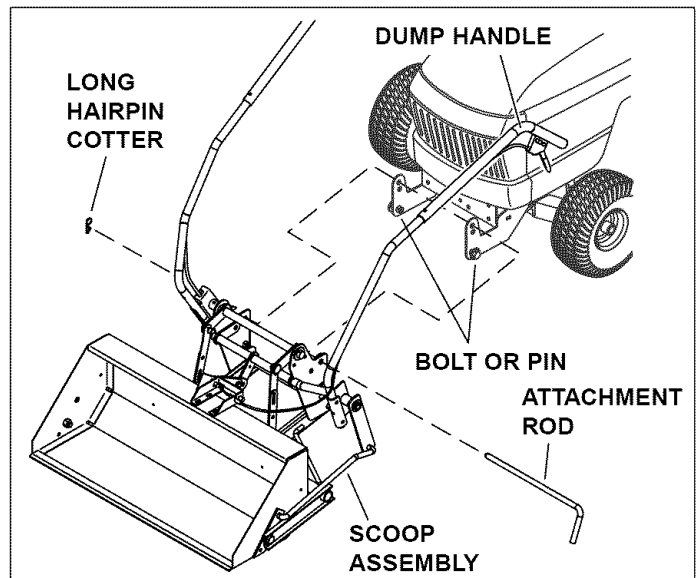

FIGURE 21
- Align the scoop with the side plates on the front of the tractor. Lift the rear of the scoop and slide the notches in the scoop frame onto the bolts or pins in the tractor side plates. Stand on the left side of the tractor and push down on the scoop dump handle until the holes in the scoop frame and the holes in the side plates are aligned. Install the attachment rod through the holes from the left side and secure it with a long hairpin cotter. See figure 21.